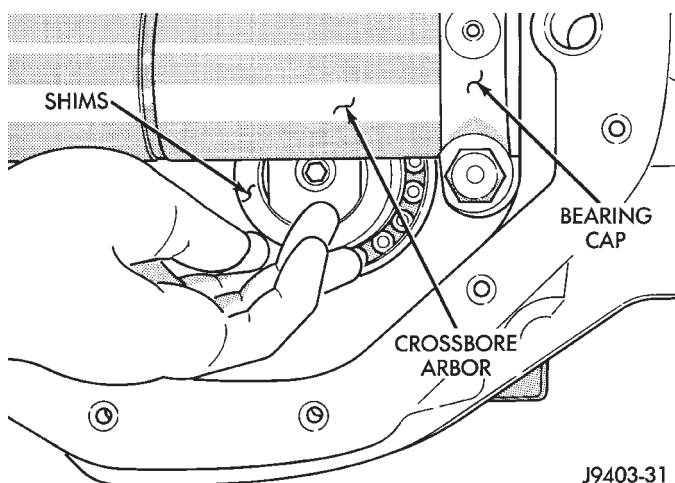

Fig. 72 Depth Shim(s) Selection
- (20) Center the arbor tool.
- (21) Position the bearing caps on the arbor tool.
- (22) Install the attaching bolts.
- (23) Tighten the cap bolts to 14 N·m (10 ft. lbs.).
- (24) Trial fit depth shim(s) between the crossbore arbor and gauge block (Fig. 72). **The depth shim(s) fit must be snug but not tight (drag friction of a feeler gauge blade).**